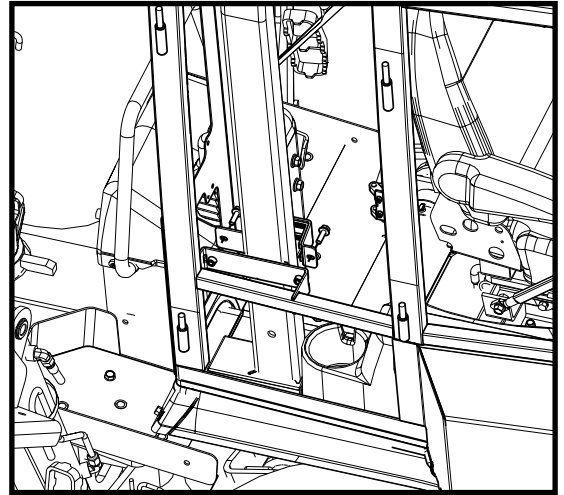

Figure 6.6: Side Frame ROPS Clamp
- 6.6 Fasten the ROPS clamp to the side frame (see Fig. 6.6). Leave hardware loose.